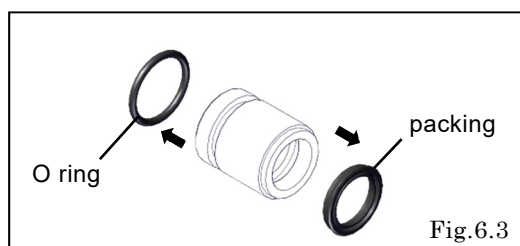

Fig.6.3
- Remove the packing and O ring from the throat bearing. <Fig.6.3>